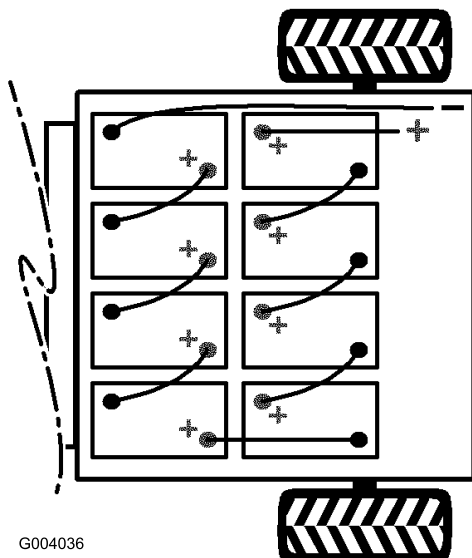

Figure 6
4. Install the batteries (Figure 6).
Note: Pay attention to the battery polarity when installing the new batteries (Figure 6).
6. Connect the batteries together with the battery cables included in loose parts (Figure 6).
7. Tighten the bolt and secure the other side of the clip with a new bolt (5/16 x 3/4 inch) and a flange nut (5/16 inch) (Figure 6).
8. Connect the long, red, main positive lead between the bank of batteries and the machine (Figure 6).
9. Connect the long, black, main negative lead between the bank of batteries and the machine (Figure 6).